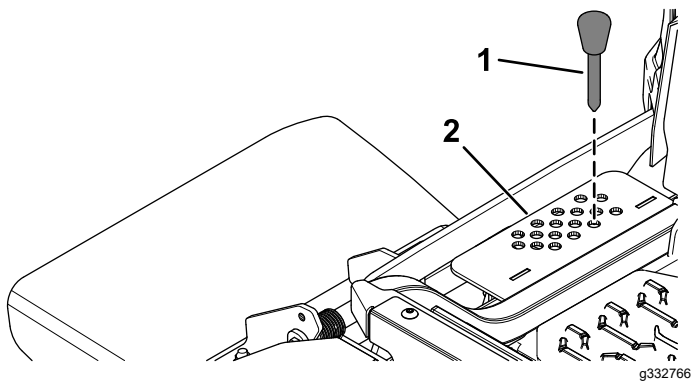

Figure 31
2. Select a hole in the height-of-cut bracket corresponding to the height of cut desired, and insert the pin (Figure 31).